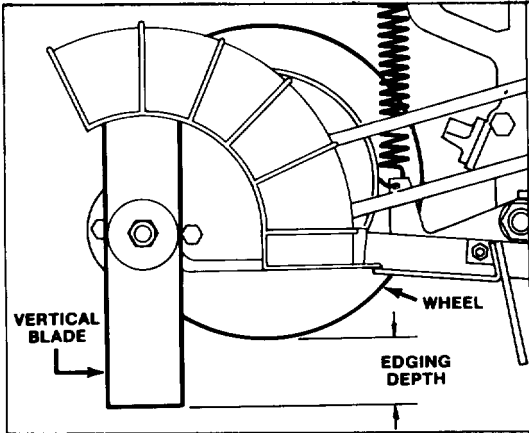

Figure 9
2. **CHECK EDGING DEPTH** (Fig. 9) — Squeeze blade/clutch lever against handle. Space between bottom of tire and ground is actual blade edging depth. If adjustment is required, go to step 3.